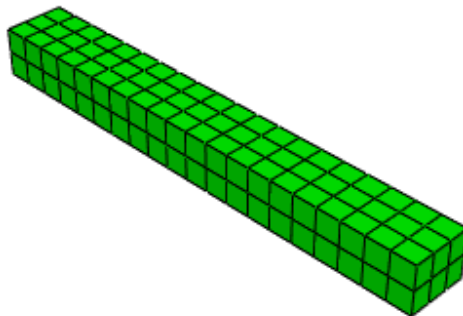

Figure W1–15 Undeformed model shape.
2. In the toolbox, click  (or select **Plot**→**Deformed Shape** from the main menu bar) to view a deformed model shape plot, as shown in Figure W1–16.